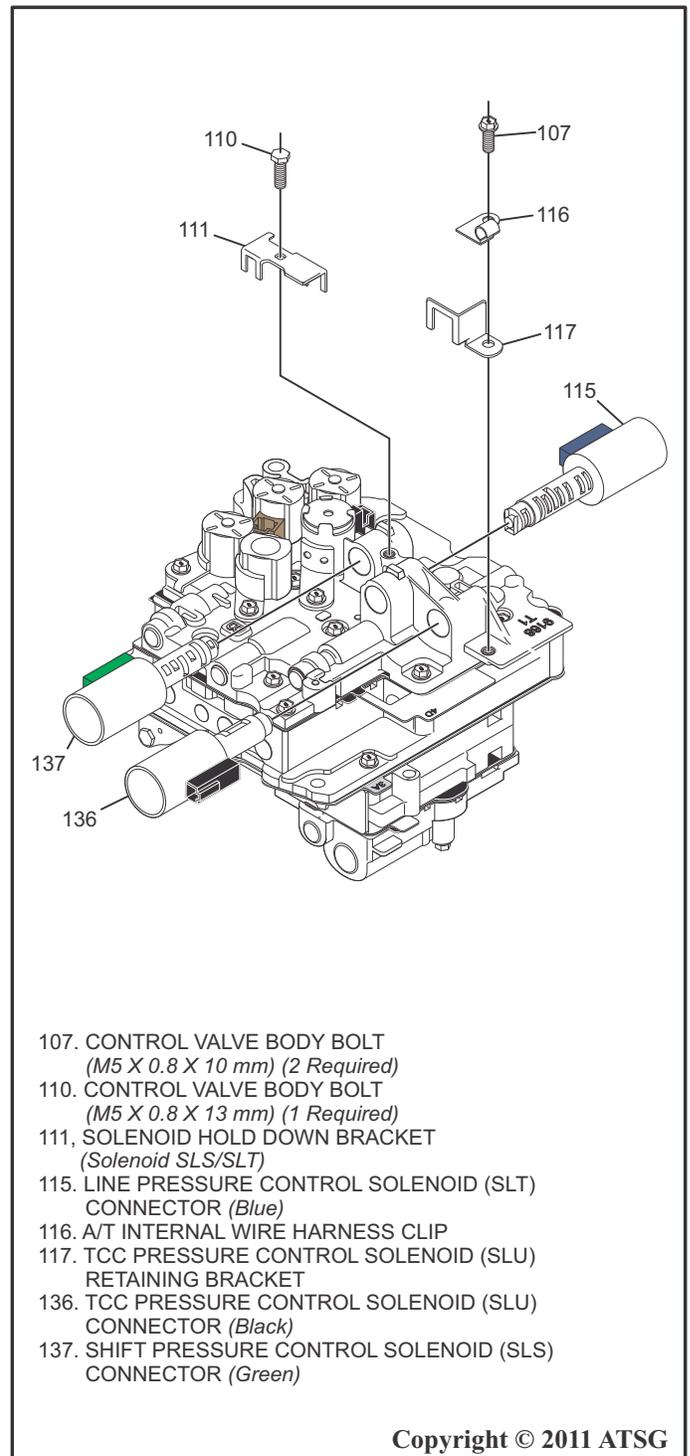

Figure 154
1. Remove the control valve body bolt using a 10 mm socket, then remove the solenoid SLT/SLS hold down bracket as shown in Figure 154.
2. Remove the control valve body bolt using a 8 mm socket, then remove the A/T internal wire harness clip and the solenoid SLU hold down bracket as shown in Figure 154.
3. Remove the solenoids SLS, SLT, and SLU as shown in Figure 154.